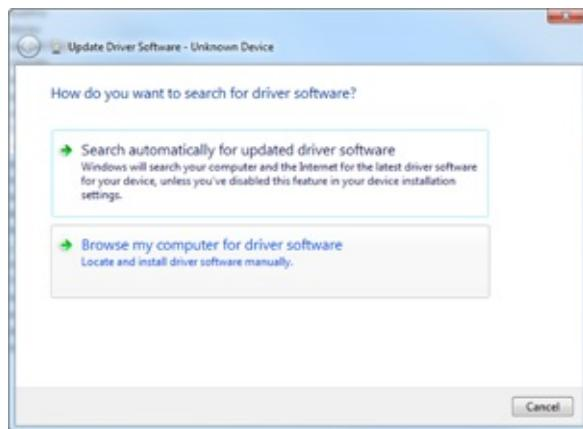

Figure 3-3: Installing drivers in Device Manager.
4. **Right-click Arduino Uno and select Update Driver Software in the list that appears; then click the Browse My Computer for Driver Software option (see Figure 3-3).**